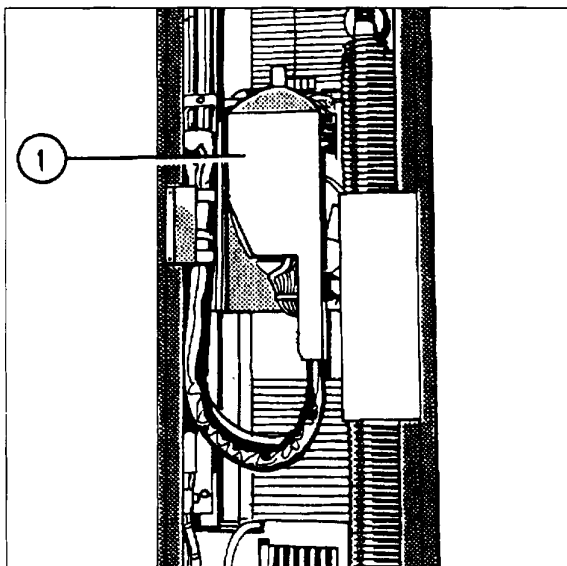

Fig. 5
- Remove the screws from the cable guide plate (1/Fig.5).